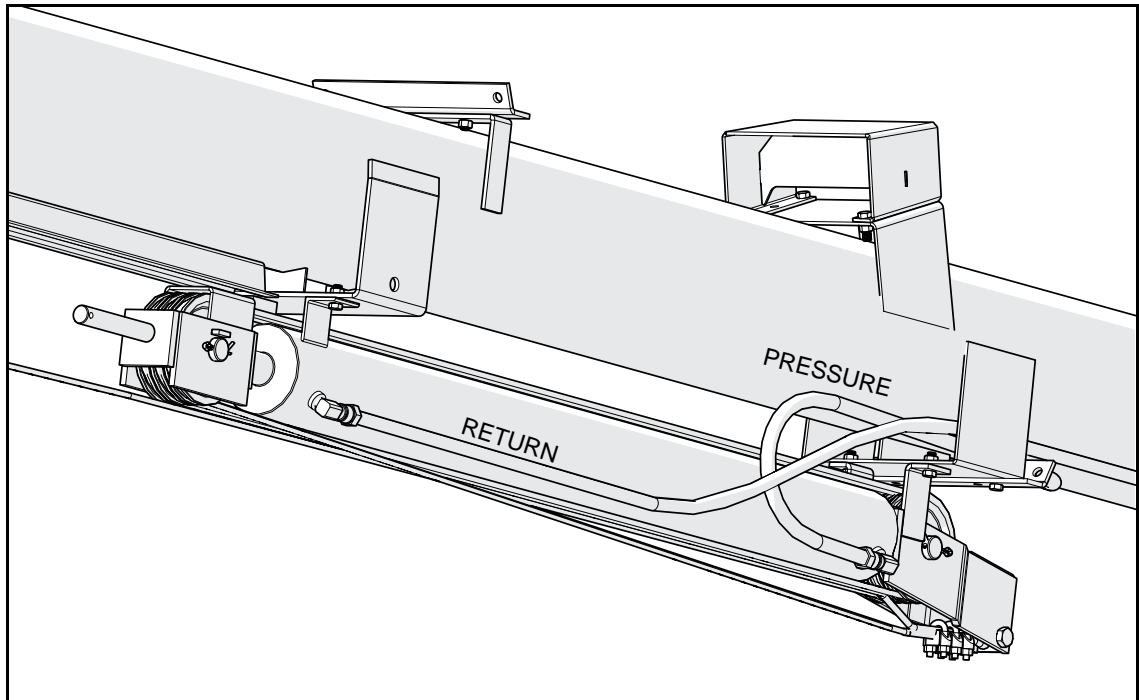

Figure 3.33 MKX100-83 Hydraulic Hose Cylinder Connections
- a. Loop the pressure hose through the back-arm bracket, then run the hose under the tube and to the boot, securing the hose at brackets welded to side of auger tube and boot. Bend tops of these brackets over slightly to hold hose in place (see Figure 3.33).
- b. Run the return hose through the back-arm bracket, under the tube, and to the boot, securing the hose at brackets welded to side of auger tube and boot. Bend tops of these brackets over slightly to hold hose in place (see Figure 3.33).